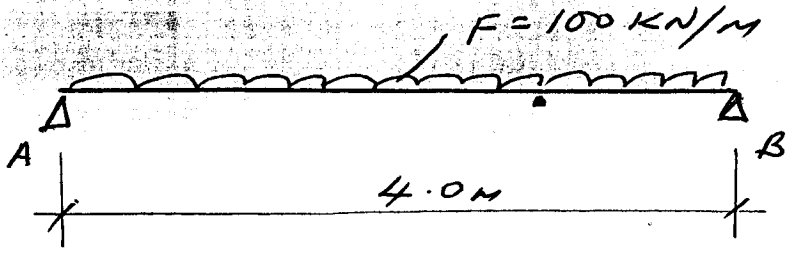

FIG. 4.0
- 7.0 A beam as shown in Fig 4.0 is simply supported over a span of 4.0m carrying a uniformly distributed load of 100kN/m. Assuming no laterally restraints: